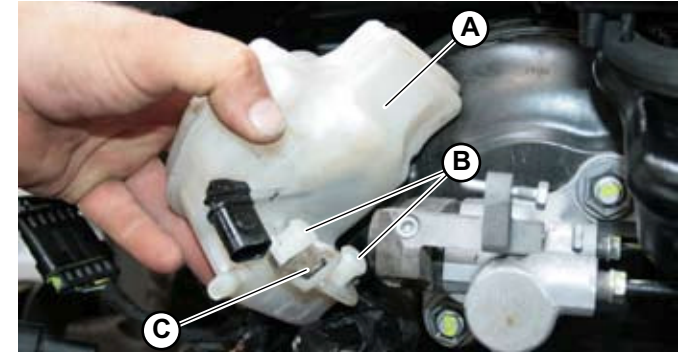

Fig.8
1. Insert the pan (A-Fig.8) to the two unions (B-Fig.8) on the brake booster and clip into its slot (C-Fig.8).